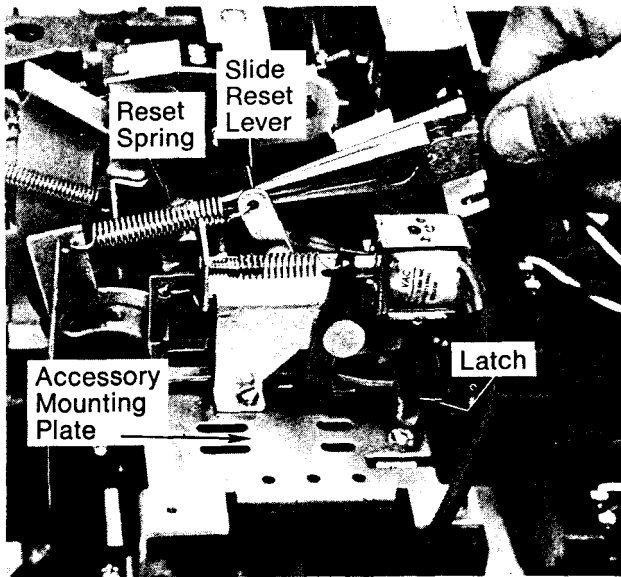

FIG. 32
- Remove the slide reset lever spring from the mounting plate as shown in Fig. 32. Care should be exercised not to nick or damage the spring in any way, since it will be needed for reassembly.
7. Replace slide reset lever spring (Fig. 32).